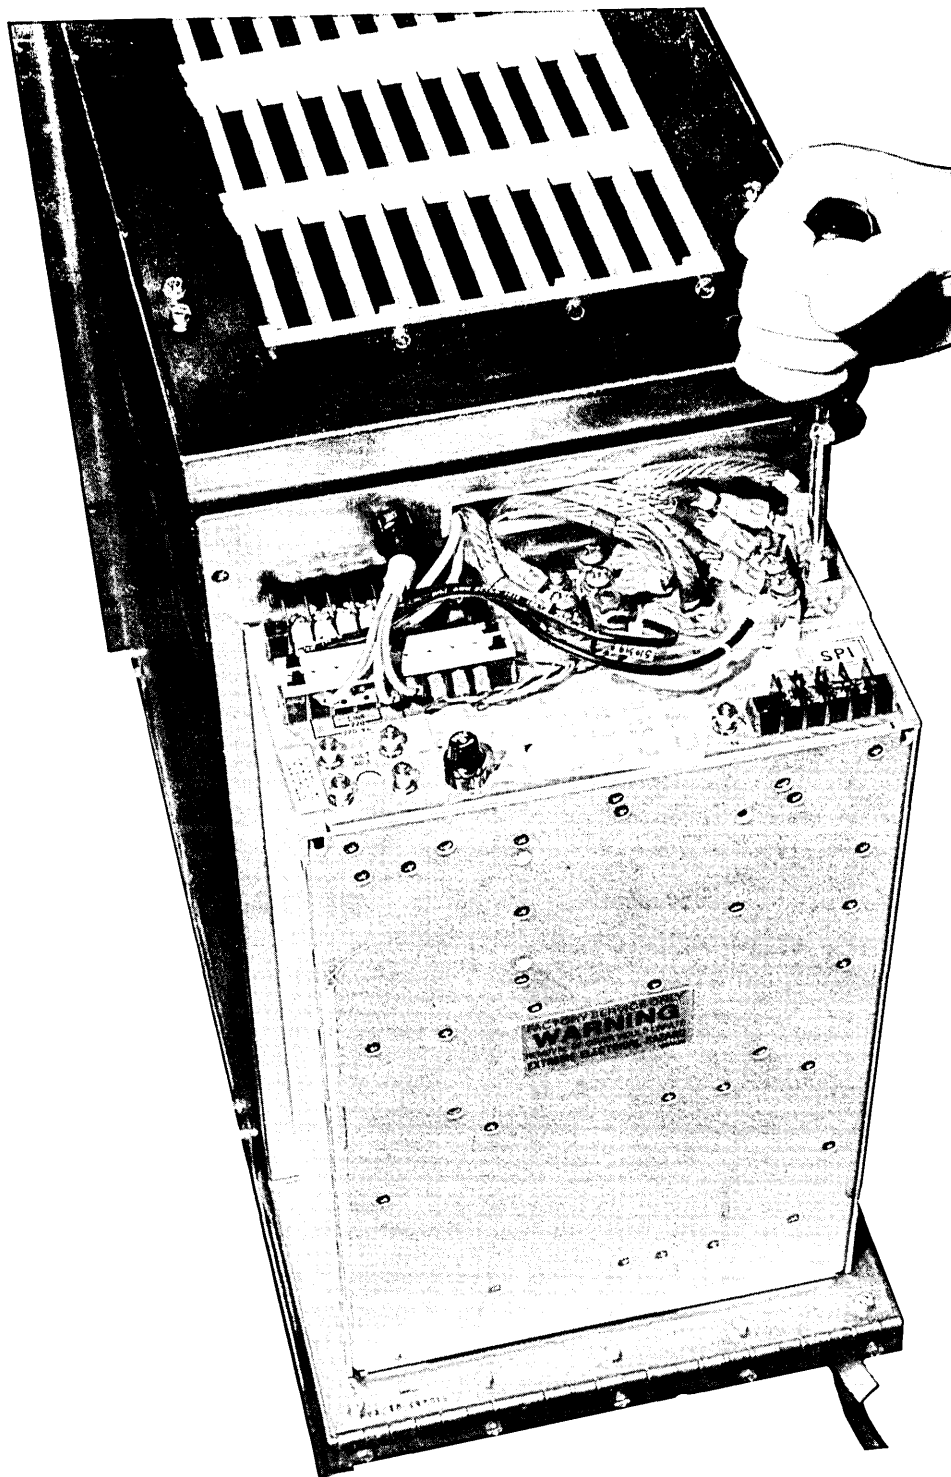

Figure 5-39. Removing Connections to Power Supply
7. See figure 5-39. Using a nut driver and a Phillips head screwdriver, remove the connections to the terminal strips.